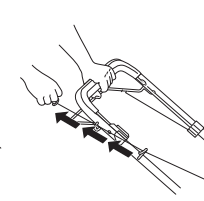

Fig.6D
4. Pull the starter handle quickly. Return it slowly to the loop after engine starts (Fig.6D)